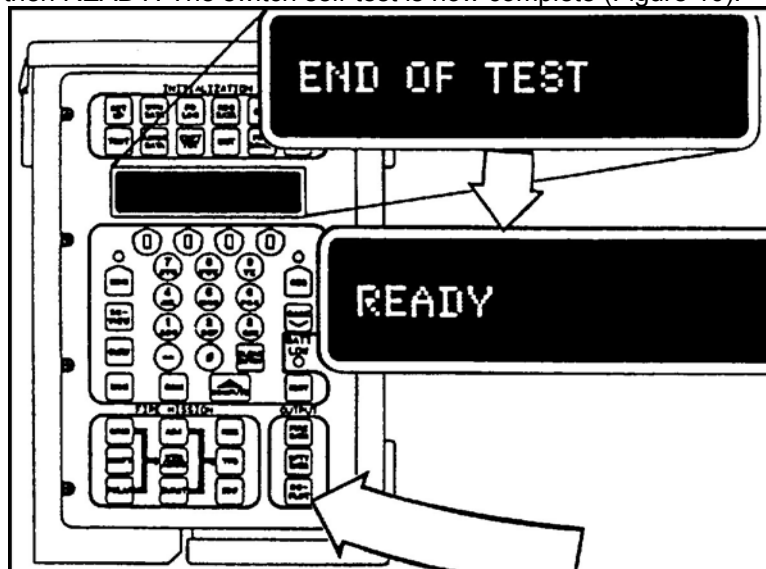

Figure 10. End of switch test.
- e. After you press the last switch shown on the display, the MBC shows END OF TEST for a few seconds, then READY. The switch self-test is now complete (Figure 10).